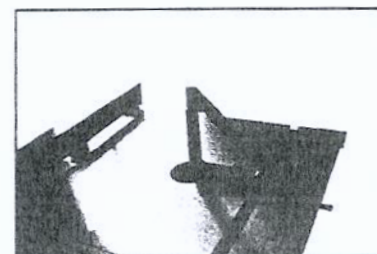

Fig. 6
- Use a protractor placed on the table and against the blade, (A, Fig. 6) to see if the table is 90 degree to the table.